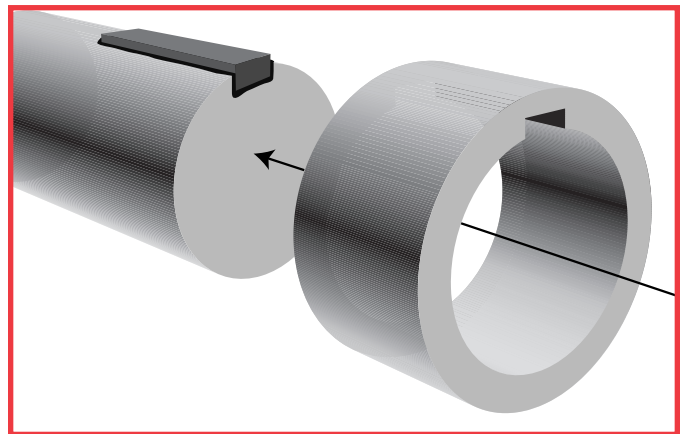

Figure 24. Immediately align key, shaft and hub.
5. **Immediately reposition** the shaft on the hub to properly align the key, shaft and hub. Leave assembled. (See figure 24)